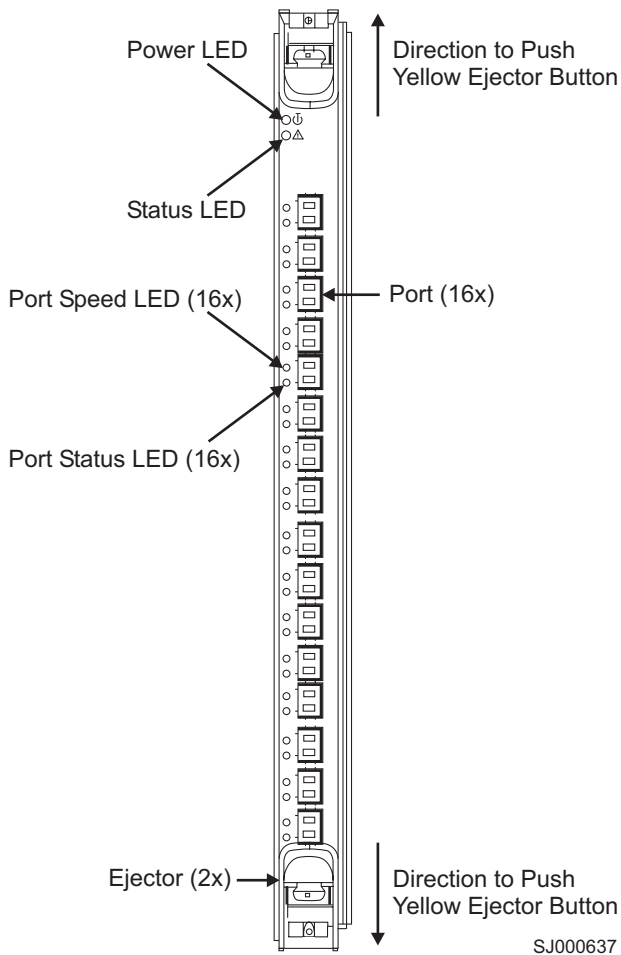

Figure 32. 16–port card showing ejectors
3. Notify the switch of a hot-swap request by pushing in the yellow tab on each ejector and clicking the black handles slightly open. See Figure 32.